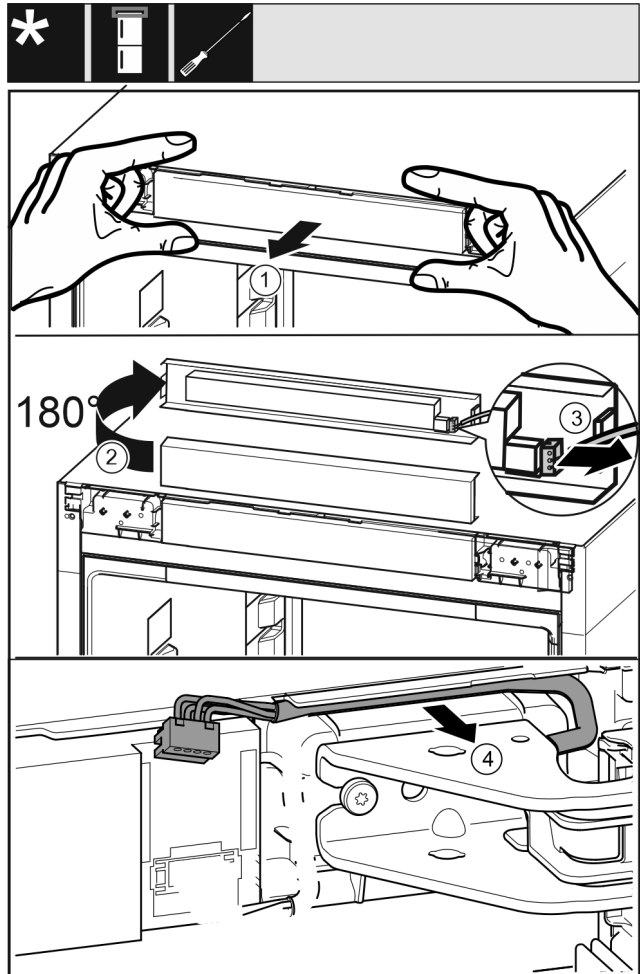

Fig. 20
- Carefully release the control panel trim Fig. 20 (1) forwards.
- Turn the control panel trim Fig. 20 (2) upwards by 180°.
- Push the locking tab Fig. 20 (3) backwards and remove the plug carefully.
- Release the cable over the swap bearing block Fig. 20 (4) from the guide carefully.